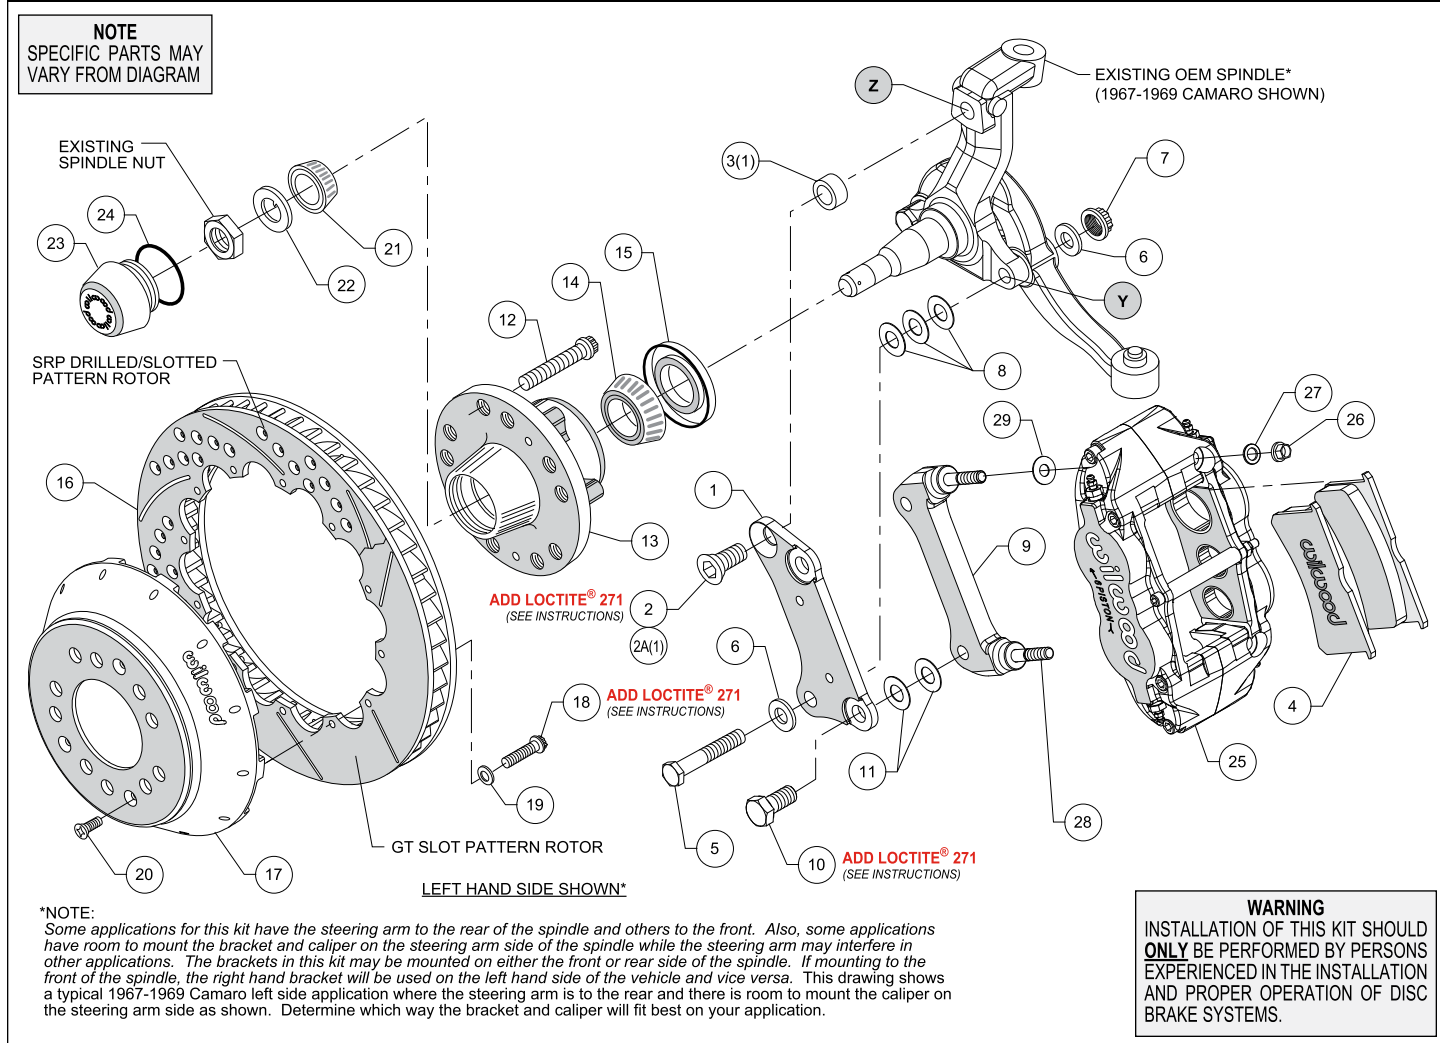
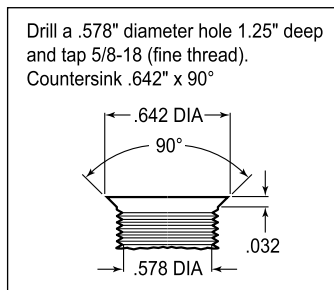
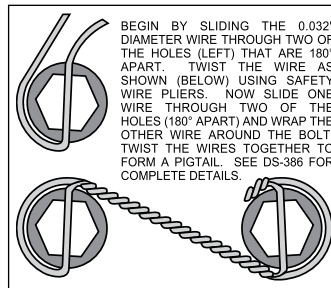

Figure 1. Typical Installation Configuration
Figure 3. Drill and Tap Detail
Figure 4. Safety Wire Diagram
**NOTE:** Numbers in parenthesis refer to the parts list and Figure 1 on the preceding pages.
- NOTE:** Some applications for this kit have the steering arm to the rear of the spindle and others to the front. Also, some applications have room to mount the bracket and caliper on the steering arm side of the spindle while the steering arm may interfere in other applications. The brackets in this kit may be mounted on either the front or rear side of the spindle. If mounting to the front of the spindle, the right hand bracket will be used on the left hand side of the vehicle and vice versa. Figure 1 shows a typical 1967-1969 Camaro left side application where the steering arm is to the rear and there is room to mount the caliper on the steering arm side as shown. Determine which way the bracket and caliper will fit best on your application.
- NOTE:** Some spindles in this year range may require the following modifications (reference Figure 1 and Figure 3): Top anchor pin hole (Z) must be drilled and tapped to the dimensions as outlined in Figure 3. The lower bolt hole (Y) in the spindle used to mount the new caliper bracket, and the mating steering arm hole, must be enlarged to .50" by drilling. It is recommended these modifications be performed by a qualified machinist.
- Install wheel studs (12) into the hub (13), Photo 1. Torque to 77 ft-lb. **NOTE:** There are two five lug patterns in the hub (5 x 4.50 and 5 x 4.75). Make sure of the correct hole pattern for the correct wheel application before installing studs into hub.
- Pack the large inner bearing cone (14) with high temperature disc brake bearing grease (available from your local auto parts store) and install into the backside of the hub (13).
- Install the grease seal (15) by pressing into the backside of the hub (13), Photo 2.
- Orient the rotor (16) and the hat (17) as shown in Figure 1 and Photo 3. Attach rotor to hat using bolts (18) and washers (19). Using an alternating sequence, apply red *Loctite*® 271 to the threads, and torque to 155 **in-lbs**. For an added measure of security, the bolts may be safety wired using standard 0.032 inch diameter stainless steel safety wire as shown in Figure 4. Please refer to Wilwood's data sheet DS-386 (available at [www.wilwood.com/Pdf/DataSheets/ds386.pdf](http://www.wilwood.com/Pdf/DataSheets/ds386.pdf)) for complete safety wire installation instructions.
- Disc Brake Spindle Application Only:** Follow the instructions below, but instead use bolt (2A), and spacer (3) in the upper bolt hole location, Figure 1.
- Orient the flat bracket (1) as shown in Figure 1 and Photo 4, and install using bottom bolt (5), washers (6), and nut (7), Figure 1. Initially place three .032" thick shims (8) between the bracket and spindle. Install the upper bolt (2 or 2A). Temporarily tighten bolts. **NOTE:** *The bracket must fit squarely against the mounting surfaces on the spindle.* Inspect for interference from casting irregularities, machining ridges, burrs, etc. Temporarily install the new hub, hat and rotor assembly. Check that the bracket is aligned parallel to the rotor, Photo 5. If not, adjust by adding or subtracting shims (8) on the lower bolt between the bracket and spindle, Figure 1. Once the bracket alignment is correct, remove the upper bolt (2 or 2A), apply red *Loctite*® 271 to the bolt threads, and torque to 120 ft-lb. Torque the lower lock nut to 65 ft-lb.
- The radial mount caliper bracket (9) should initially be installed with clean, dry threads on the mounting bolts. Orient the bracket as shown in Figure 1 and Photo 6, and install using bolts (10). Initially place two .029 thick shims (11) on each bolt between the two brackets, Figure 1. Temporarily tighten the mounting bolts. Later, after the caliper alignment has been checked, the mount bolts will be secured using red *Loctite*® 271.
- Pack the small outer bearing cone (21) with high temperature disc brake bearing grease and install into hub (13). Final install the hub assembly onto the spindle. Secure using spindle washer (22) and OEM spindle nut, Photo 7. Adjust bearings per OEM specifications. Install saved OEM nut lock (if any) and a new cotter pin (not included).
- Screw dust cap (23) into hub (13). Friction created by the o-ring (24) on the dust cap keeps it from unscrewing. **NOTE:** *The O.D. of the existing OEM spindle washer may be larger than the I.D. of the dust cap not allowing it to seat against the hub face. Therefore, use the spindle washer (22) supplied with the kit instead of the OEM washer.*
- Final install the rotor (16 and 17) assembly onto the hub (13), taking care to align the small countersunk holes in the hat with the small threaded holes in the hub. **NOTE:** *The hat must fit flush against the hub face or excessive rotor run out may result.* Install three flat head screws (20) through the small holes in the hat (17), Photo 8, and torque to 85 in-lb.
- NOTE:** *This kit contains distinct right and left hand calipers that must be mounted in a specific direction, as described below.* Initially place one .035" thick shim (29) on each stud (28) between the caliper and the bracket, as shown in Figure 1 and Photo 9. Mount the caliper (25) onto the bracket (9) using lock nuts (26) and washers (27), Figure 1. Ensure that the caliper is mounted so the largest pistons are at the rotor exit end of the caliper, in relation to the direction of rotor rotation. Temporarily tighten the lock nuts. The rotor should be centered in the caliper, Photo 10. If not, adjust by adding or subtracting shims (11) between the flat bracket (1) and the caliper bracket (9). Always use the same amount of shims on each of the two mounting bolts. Once the caliper alignment is correct, remove the bracket mounting bolts one at a time, apply red *Loctite*® 271 to the threads, and torque to 77 ft-lb.